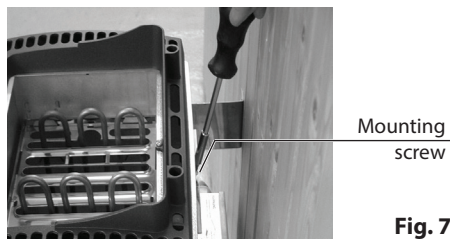

Fig. 7
5. Fasten the sauna heating unit to the wall mounting through the hole located on the rear edge of the oven using self-tapping screw (Fig. 7).